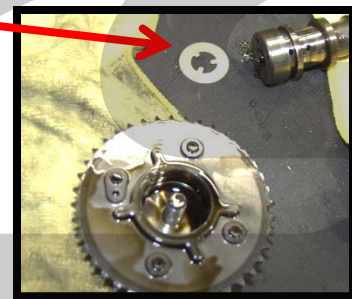

Figure 5b
- Take notice of the metal washer (Figure 5b). Replace with part# L3K9-12-429